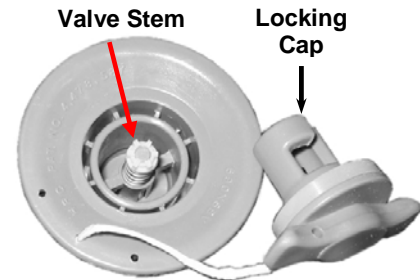

fig. 2
Inflation Port: On the top end of each tube is an Inflation Port (fig. 2). Remove the Locking Cap by turning *counterclockwise* (left) ¼ turn. Under the cap is a valve stem for filling or releasing the air in the tubes.
1. Twist and remove the locking cap (fig.2) on the end of each tube. **Check to be sure the valve stem is in the up position** (See directions above.)